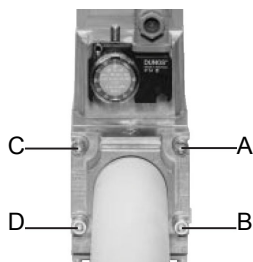
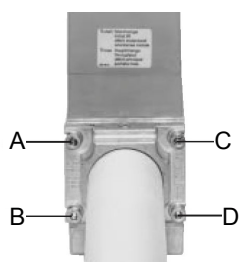

Fig. 10
Fig. 11
1. Loosen screws A and B **do not** unscrew (Fig. 10 - Fig. 11).
2. unscrew screws C and D (Fig. 10 - Fig. 11).
3. Remove MultiBloc between the threaded flanges (Fig. 11).
ATTENTION: To set the outlet pressure of the VD-R regulator, act on the adjustment ring nut (Fig. 10)
The position of the indicator in the dial indicates the value of the outlet pressure calculated as a percentage of the full scale of the PS sensor (Fig. 11)